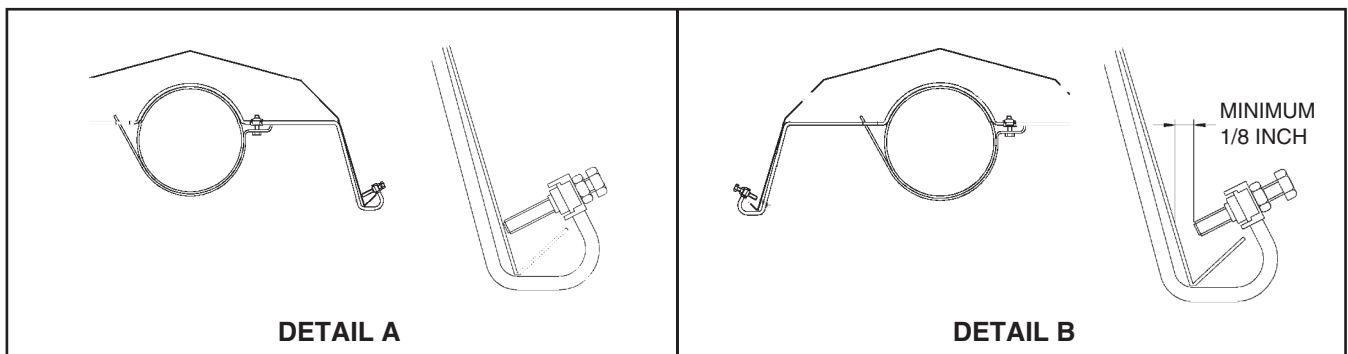

Figure 14. Non-Slip and Slip Reflector Bracket Overlaps
- b. Secure reflectors by tightening screws (non-slip overlap) on reflector brackets installed in step 5c as shown in **Figure 14**, DETAIL A.
- c. For every other reflector bracket, create slip overlap by not tightening reflector bracket screws (see **Figure 14**, DETAIL B) to allow reflector to float for adjustment.